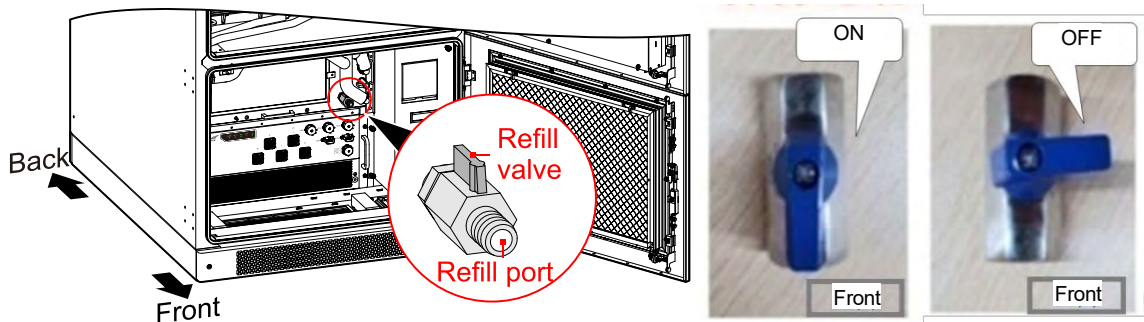

Figure7-11 Position diagram of refill port and refill valve
- Step 3 Connect the refill port (as shown in Figure7-11) of the liquid cooling unit to the special collection bucket by external liquid drain pipe (as shown in Figure3-3) , and open the liquid refill valve (as shown in Figure7-11).